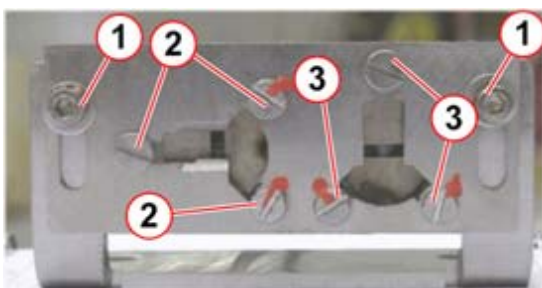

Fig. 46: Laser assembly
- Align the two laser beams and the two markers on the ball phantom by: Backing up the two allen screws (1/Fig. 46 / p. 49) by a couple of turns and rotate and/or shift the entire laser module to align beams and markers on the ball phantom.
Each laser may also be adjusted individually by turning screws (2/Fig. 46 / p. 49) and/or (3/Fig. 46 / p. 49).
- Adjust the laser element in +/- X direction by turning screw (2/Fig. 46 / p. 49)
The laser beam should be in parallel with the short side of the patient table tray (Fig. 49 / p. 49). If not back up screws (1/Fig. 46 / p. 49) and shift/rotate entire laser assembly.
Fix the laser module with the two allen screws (1/Fig. 46 / p. 49) when alignment is achieved as in (Fig. 49 / p. 49).
If the laser beam is tilted in Y-direction. Turn screw (3/ Fig. 46 / p. 49) to compensate.